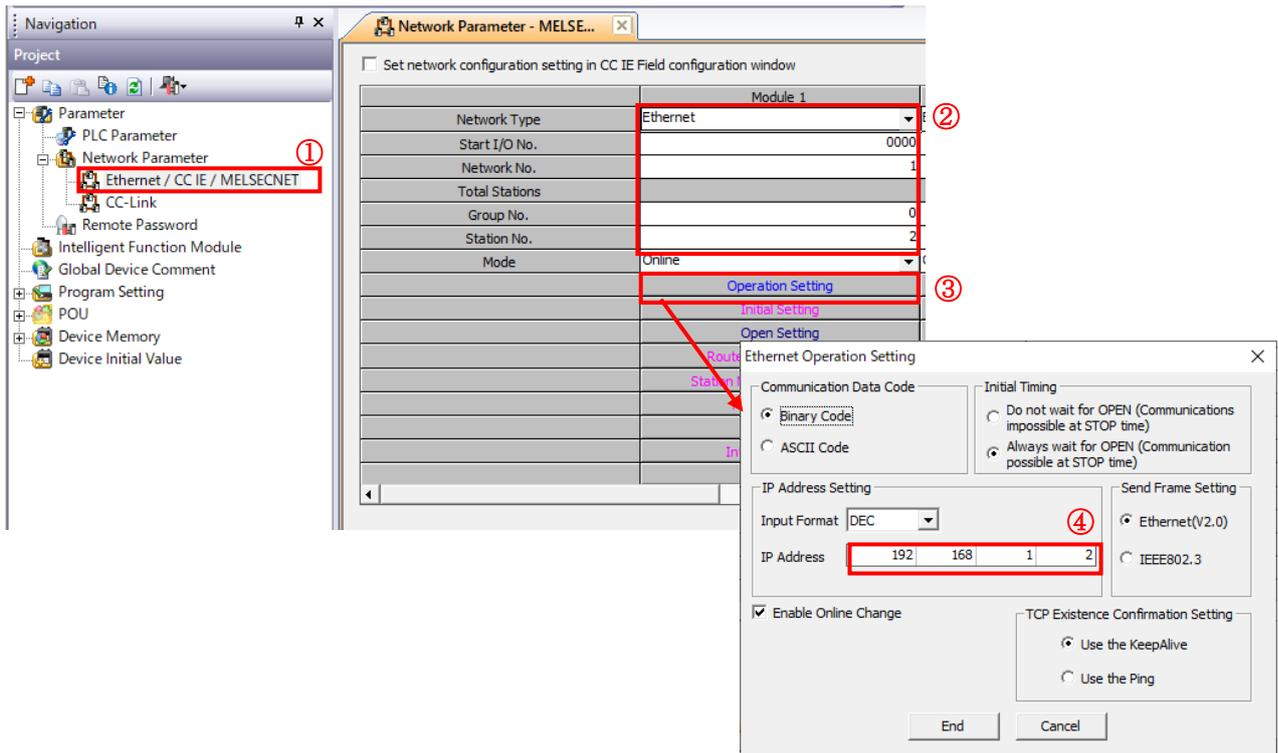

Figure 4-3 Extended Ethernet unit 1 parameter setting
① to ④ in Figure 4-3 show the setting steps of Expansion Ethernet Unit 1.
- ① From the navigation tree menu, click Ethernet/CC IE/MELSECNET.
- ② Select "Network type: Ethernet" in Unit 1 settings, and enter the network number and station number.
- ③ Opens the Operation Setting.
- ④ Enter the IP address.